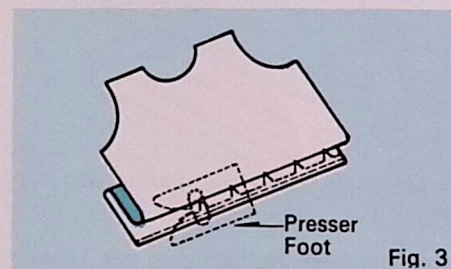

Fig. 3
3. Place garment under presser foot in such a manner that straight stitches will be sewn on extended edge. The zigzag stitch should just catch the fold of the garment. (Fig. 3)